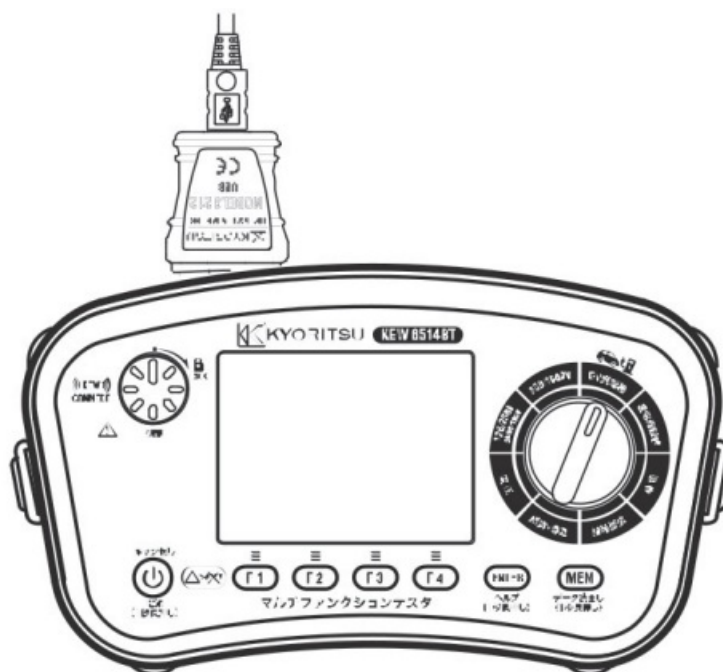

Fig. 16-2
- (1) Download “KEW Report2” and the driver for MODEL 8212USB from our website and install them in your PC before starting data transfer.
- (2) Disconnect the test leads from the instrument.
- (3) Insert the plug of MODEL 8212USB into the USB terminal into the USB terminal of your PC.
- (4) Connect MODEL 8212USB to the instrument as shown in Fig. 16-2.
- (5) Turn on the instrument. (Any function is ok.)
- (6) Run “KEW Report2” and click “Download”.